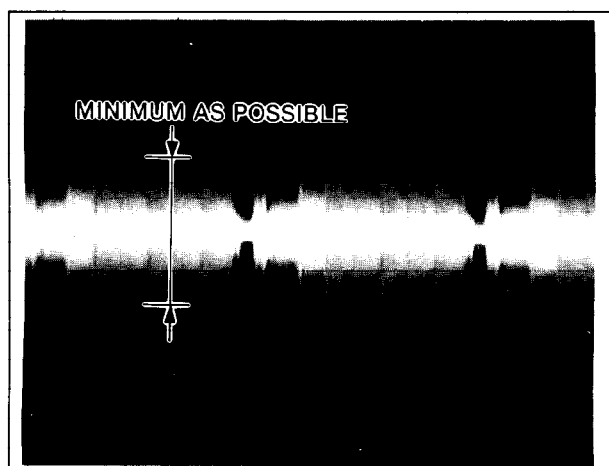

Fig. E18 After ADJ.
4. Adjust VR8301 and VR8302 mutually so that the chrominance amplitude to be minimum as shown in Fig.E18